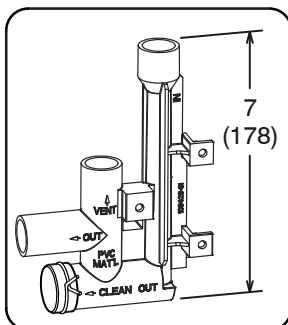

FIGURE 46
- 3 - Install the cap over the clean out opening at the base of the trap. See figure 46.
- 4 - Install drain trap using appropriate PVC fittings, glue all joints. Glue the provided drain trap as shown in figure 46. Route the condensate line to an open drain.